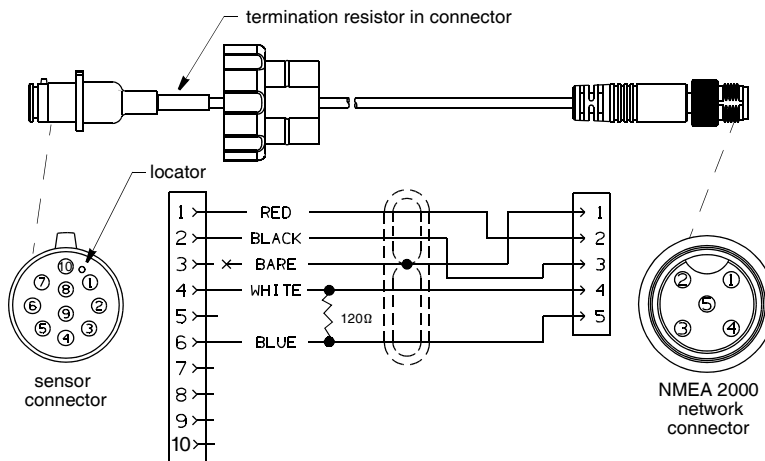

Figure 7. NMEA 2000® Sensor Cable [10m (33') shown]
**NOTE:** Sensor cables longer than 6m (20') have a termination resistor built into the sensor connector (see Figure 7).